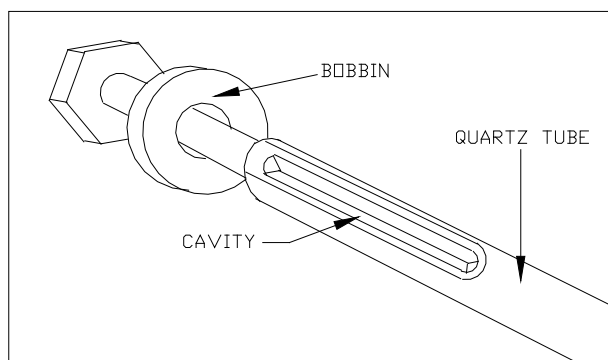

Figure 6-32. Cavity for Thermocouple
10. In preparation for installing the new thermocouple, take note of the end of the Heater Block, where there is an indentation (cavity) in the wide part of the quartz tube. This is where the thermocouple you are installing will reside. Refer to Figure 6-32.